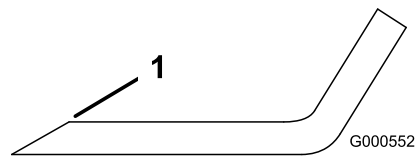

Figure 77
1. Use a file to sharpen the cutting edge at both ends of the blade (Figure 77).